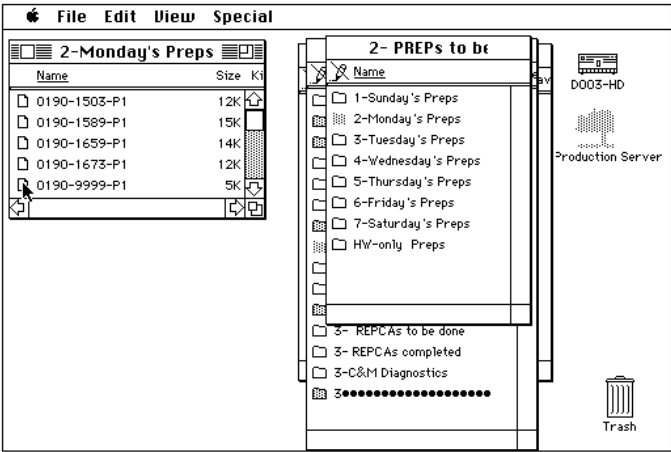

Figure 7
- Position the mouse pointer on the appropriate test number and double click to open it. See Figure 7. If the test number cannot be located, contact the VT senior technician.